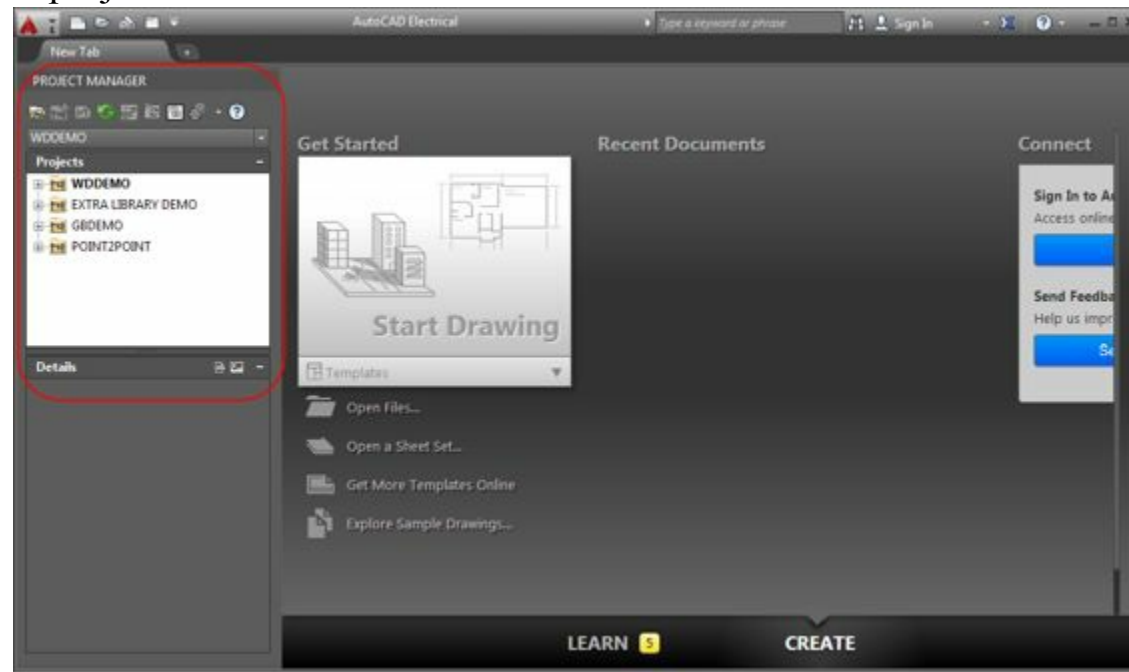

Figure-2. AutoCAD Electrical initial screen
- Start AutoCAD Electrical. If you are starting it for the first time then you will get the screen as shown in Figure-2. The marked left area displays the **Project Manager** which is used to manage projects.